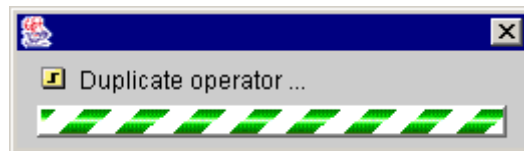

Figure 125 : Bar graph during duplication
- ♦ A bar graph (Figure 125) indicates that the operator is currently duplicated; a copy of the model is then created with the extension `_copy`.